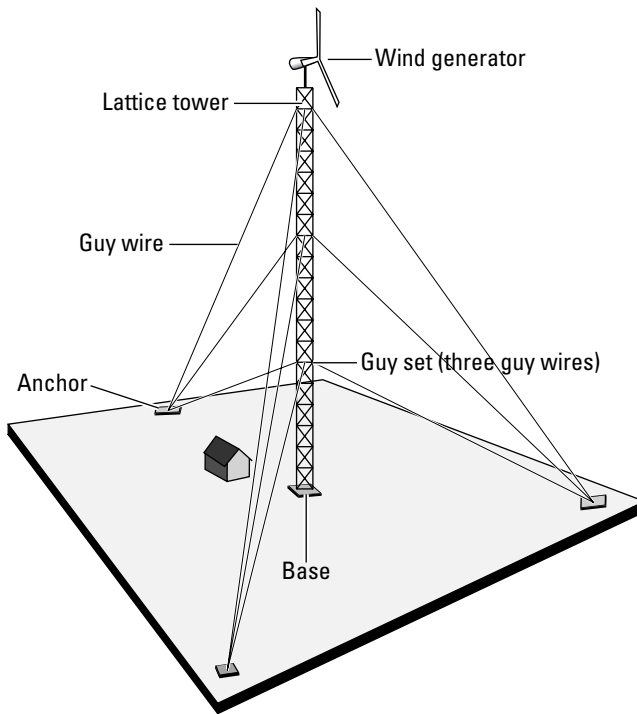

Figure 14-3:
Fixed guyed towers are very versatile because you can use them on a variety of site types and adapt them for a wide range of heights. Guy wires are attached at intervals to keep the usually lattice (but occasionally tubular) tower upright — without them, the tower would fall (see Figure 14-3). These towers don't tilt up and down. Because they're widely used, they're easily available, as is expertise for their design and installation.
- Lattice:** Lattice towers are far and away the most common. These are the towers you see at your local radio station or in your local amateur radio enthusiast's backyard. They come in 10- or 20-foot sections, and they have either tubular or solid steel legs. They're guyed on three sides (at 120-degree intervals around the tower) and have guy wires somewhere between every 30 and 80 feet up the tower, depending on the design. (Figure 14-3 depicts a lattice tower.)